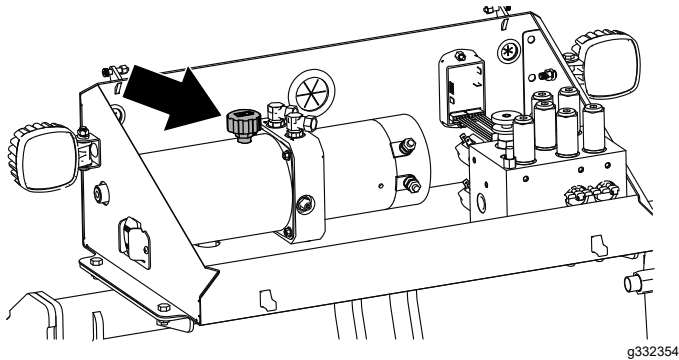

Figure 48
1. Clean the area around the fill cap (Figure 48).
2. Remove the fill cap from the hydraulic reservoir (Figure 48).